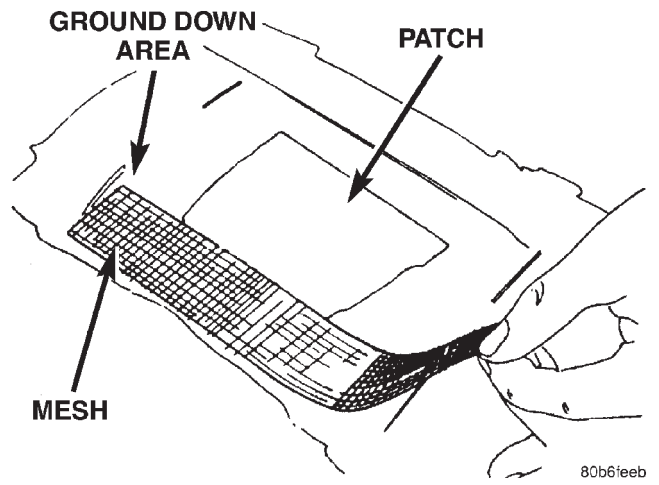

Fig. 15 Cover Gaps With Mesh
(18) Apply adhesive backed nylon mesh (dry wall tape) over gaps around patch (Fig. 15).
(19) Mix enough epoxy to cover the entire patch area.